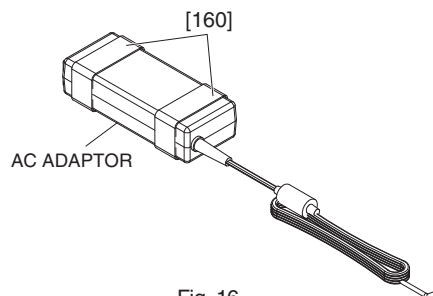

Fig. 16
* **The felt marked [160] are not parts of the AC adaptor. When replacing the AC adaptor, install the new felt marked [160] in the same way as they were before removal. (Fig. 16)**